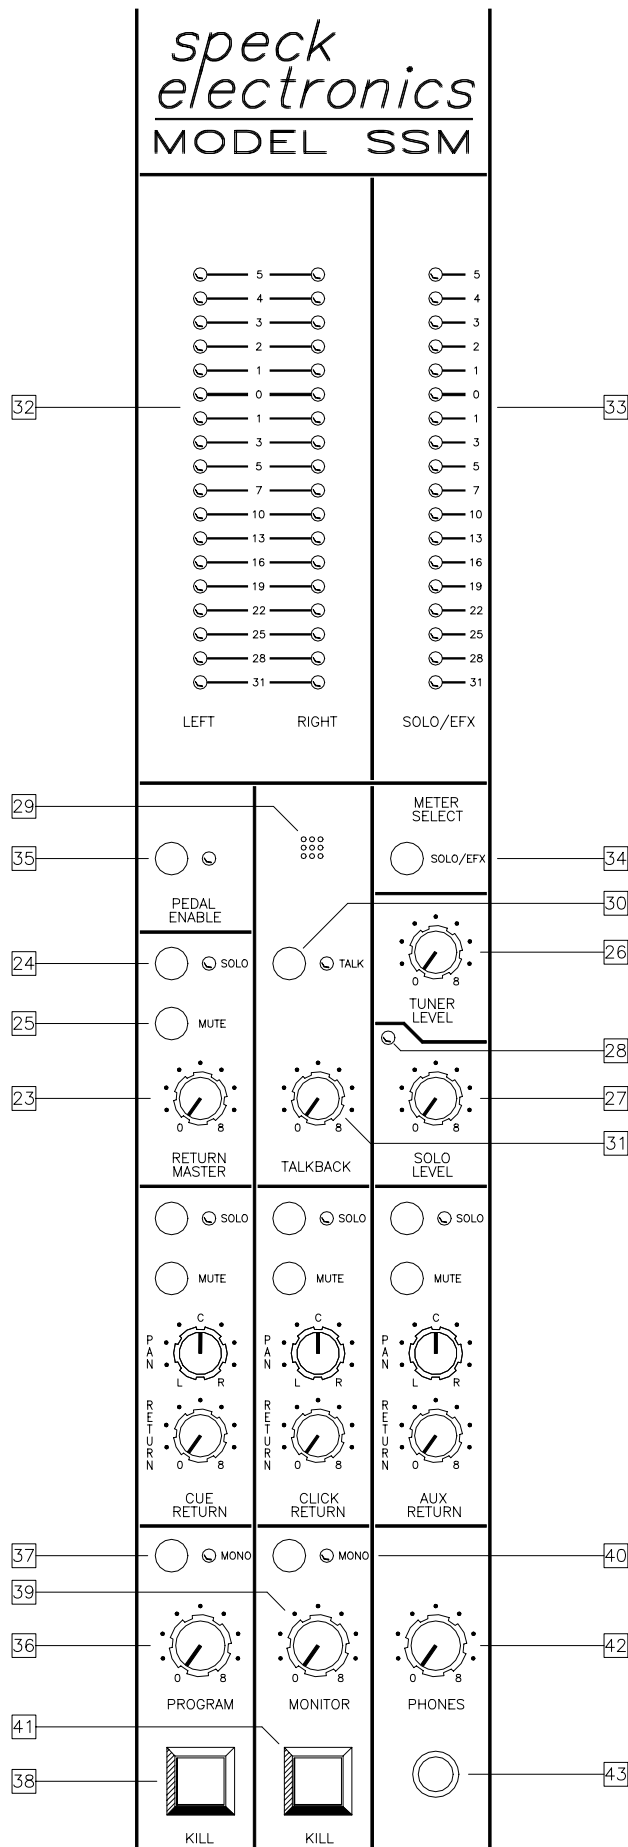

Figure 5. Master Section
Refer to Figure 5 for location of items 23 thru 43.